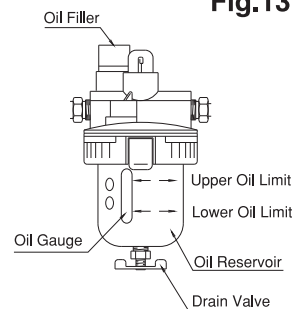

Fig.14
### ④ Remove Oil and Moisture Regularly (Fig.14)